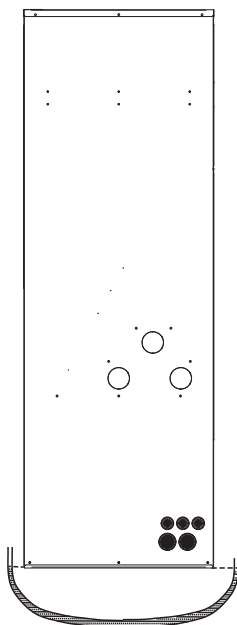

Figure 1
- ① Keep the unit level. Use a transparent hose to observe the water level (principle of communicating vessels) and verify the levelness of the unit in the depth direction. (Figure 1)